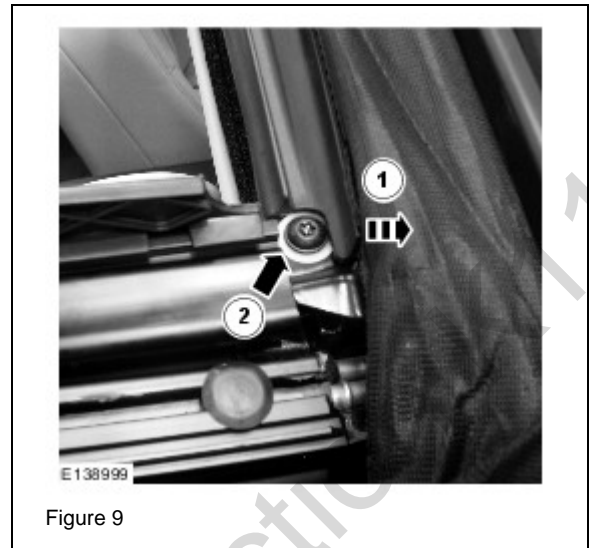

Figure 9
11. Install the new Torx bolt. (Figure 9)